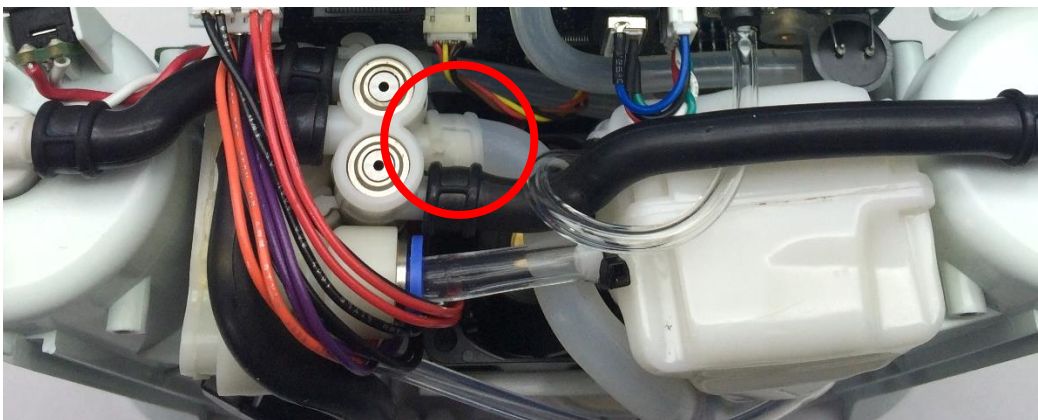

Figure 5: Inlet Tube and feed waste manifold
1. Remove the Inlet tube from the feed waste manifold using a small flathead screw driver, if necessary (Figure 5). *Be careful not to damage the sealing surface of the manifold barb when removing the tube.*